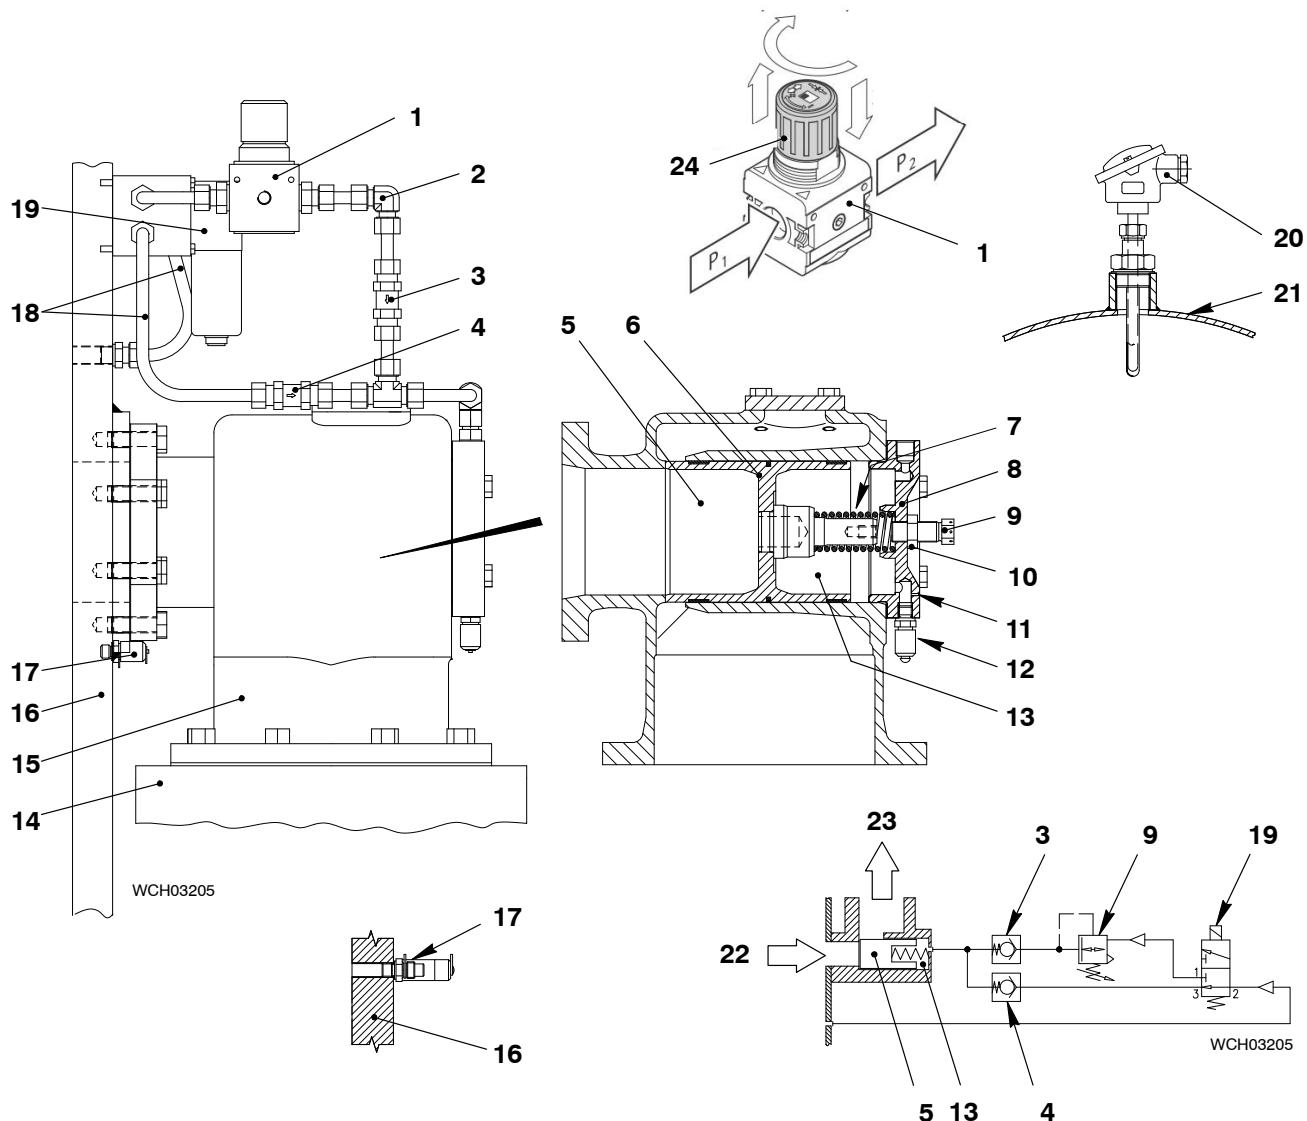

Fig. 2: Waste Gate Valve and Control Diagram
During usual operation conditions, scavenge air flows through the non-return valve (4, Fig 2) into the pressure space (13). This pressure, and the pressure from the compression spring (7), keep the piston (6), and thus the waste gate valve, in the closed position.
When the outside air temperature decreases below the values given in Table 1, the solenoid valve (19, Fig. 2) energizes. The scavenge air pressure flows through the pressure control valve (1), then through the non-return valve (3) to the pressure space (13). The pressure in the pressure space (13) decreases.